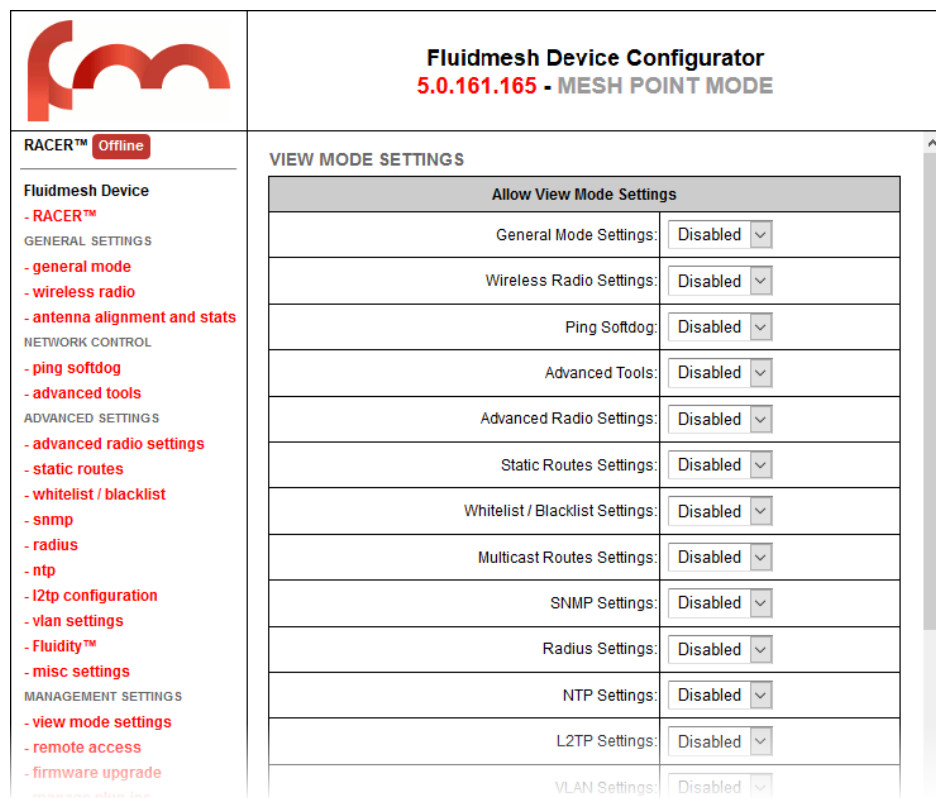

Figure 51. Configurator GUI (VIEW MODE SETTINGS dialog)
2. Click the **-view mode settings** link under **MANAGEMENT SETTINGS** in the left-hand settings menu (Figure 51 \(page 128\)).